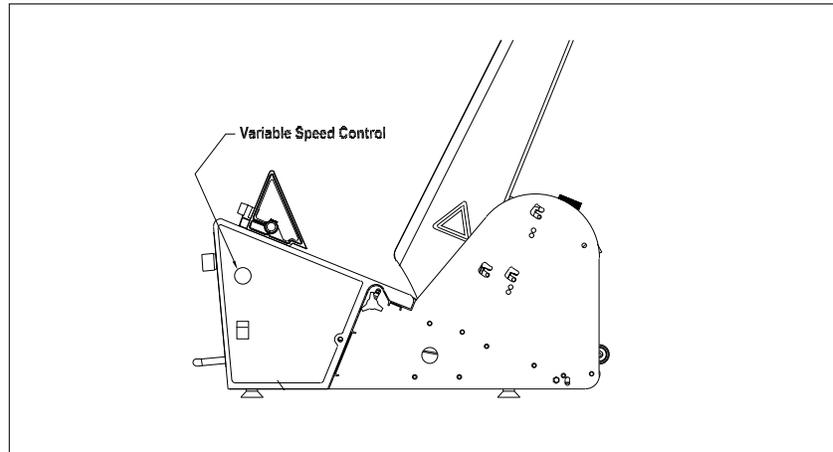

Figure 2-7. Location of Variable Speed Control
2. Set the variable speed control (Figure 2-7) to the lowest speed (counterclockwise). Gradually increase the speed to match the speed of the vacuum base, thus bringing the gap of the material closer together.